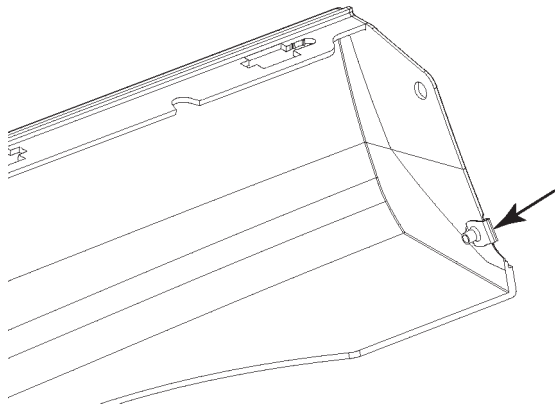

FIGURE 23
7. Insert 1 U nut onto front rocker cladding lower hole. Refer to figure 23.